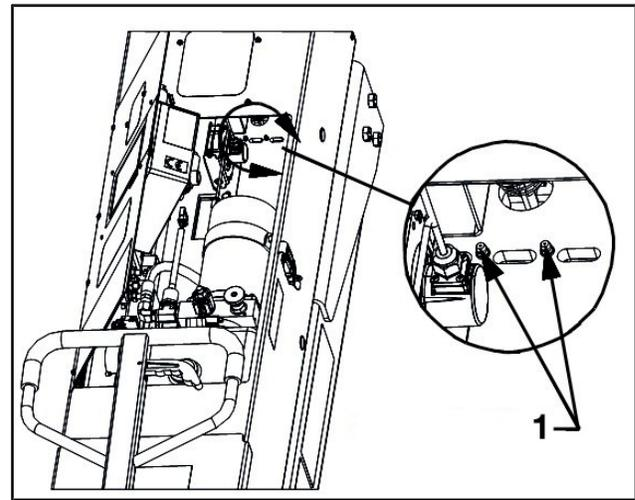

Fig. 20: Down stop grease fittings
1. Open the door and locate the two grease fittings shown in Fig. 20, Pos. 1.